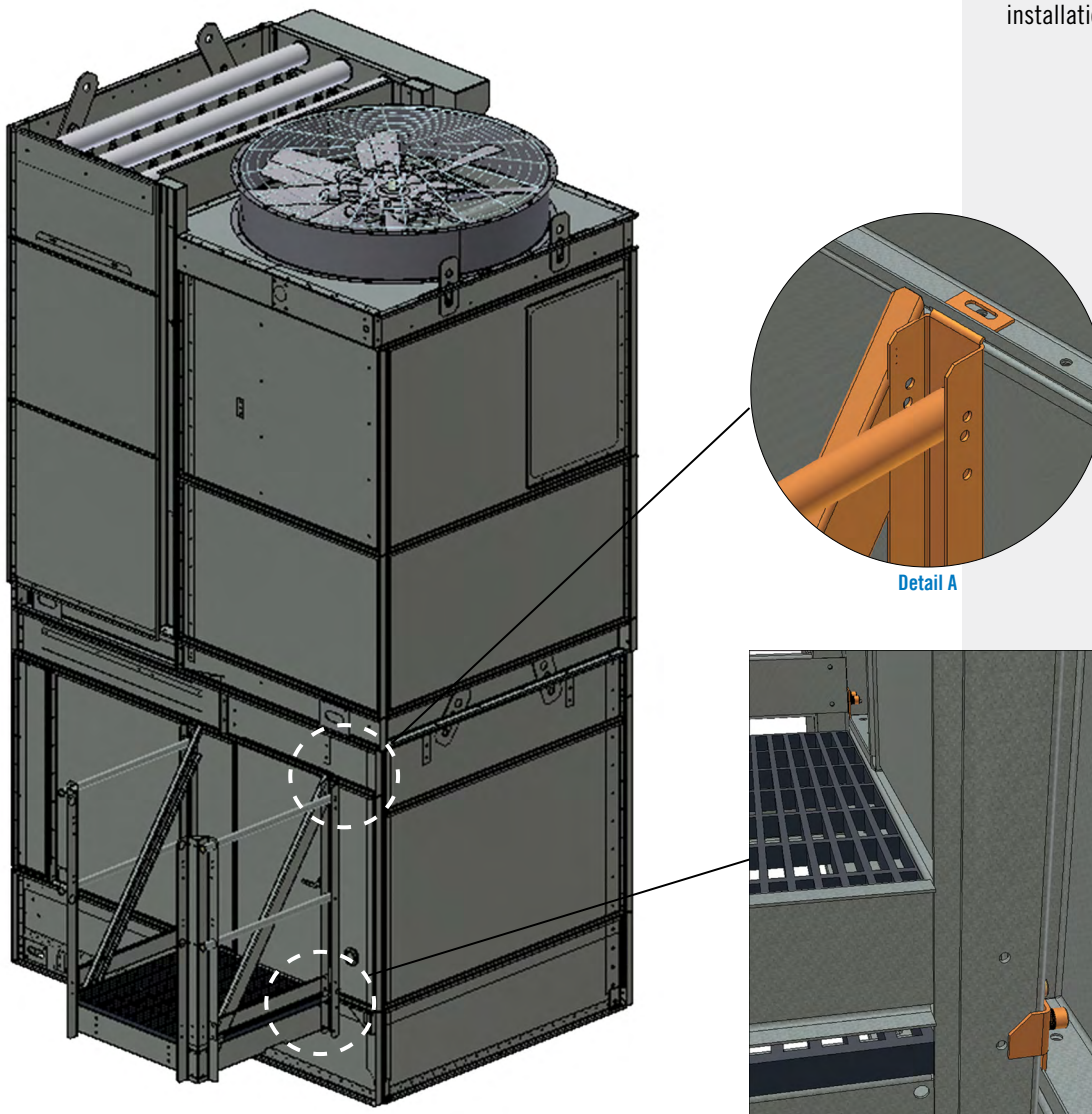

Figure 32. Door Platform
1. Insert hanger at top of platform into slots between panels and bolt into place. See **Figure 32, Detail A**.
2. Slide clamps behind panel flange at bottom of platform supports and secure to platform. See **Figure 32, Detail B**.